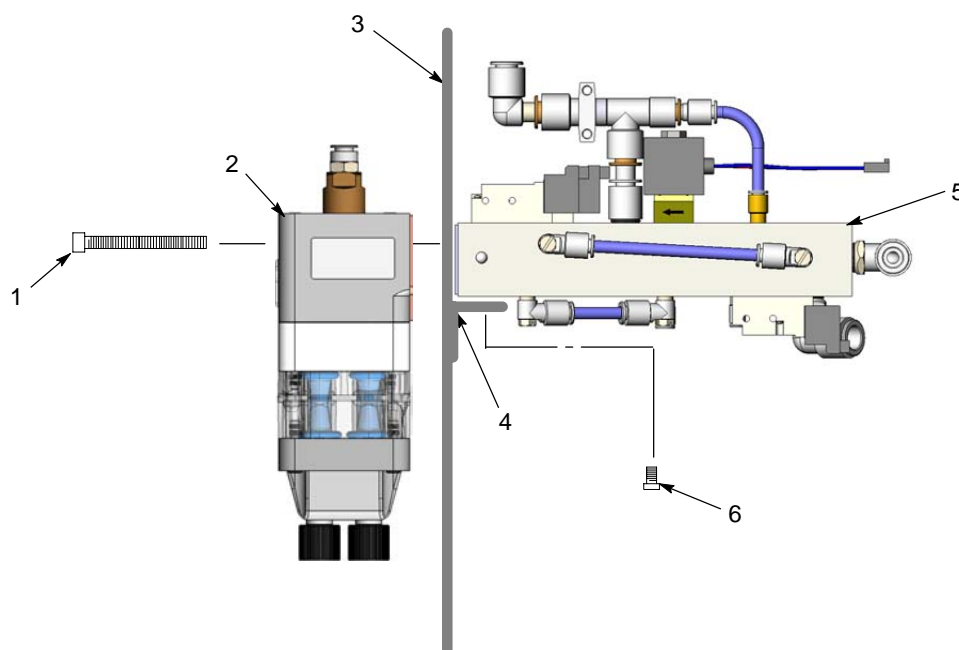

Figure 4 Pump and Manifold Installation
1. See Figure 4. Make sure that the gaskets on the pump (2) and manifold (5) are not damaged. If the gaskets are damaged, replace them.
2. Set the manifold onto the appropriate mounting bracket (4) against the pump panel wall (3). Secure the manifold with the mounting screws (6), but do not tighten the screws.
3. Secure the pump to the pump panel and manifold using the pump mounting screws (1). Tighten the pump mounting screws securely.